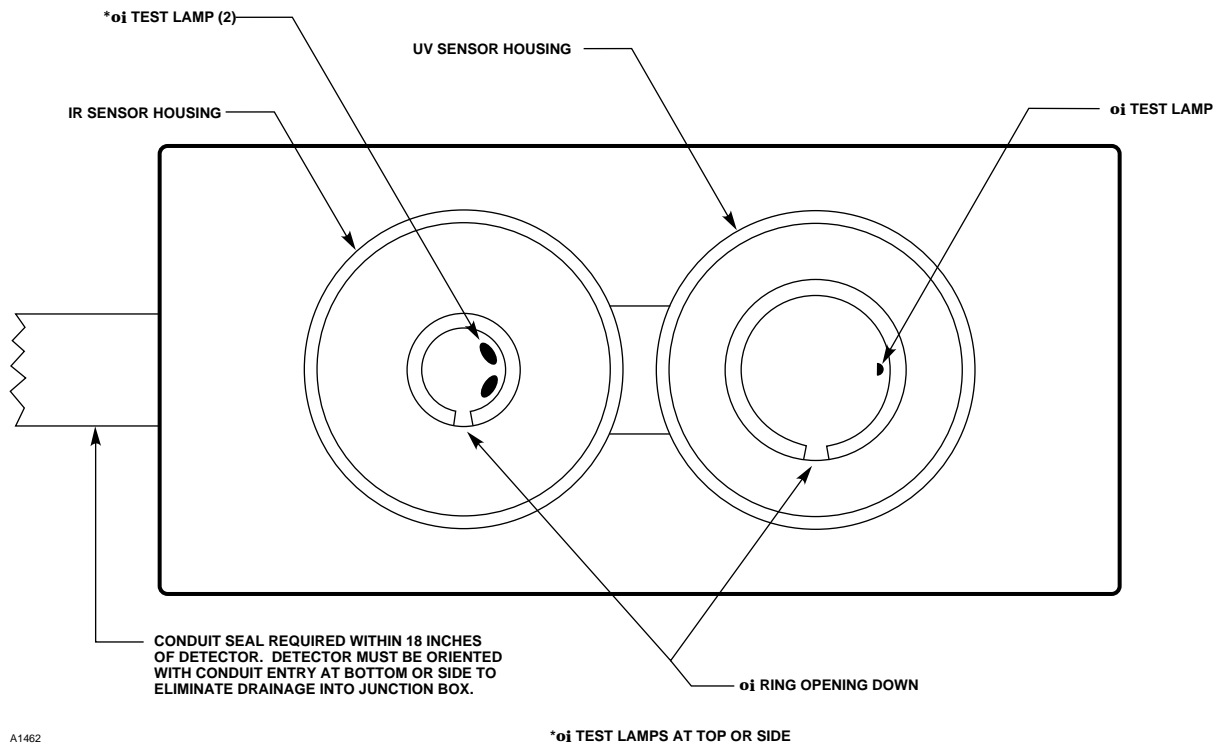

Figure 10—Front View of the C7052 Detector
It is recommended that the detector be oriented with the conduit opening at the bottom or at either side of the device. This will reduce the possibility of moisture entering the junction box through the conduit entry and also ensure that the **o**i test lamps are not in a position that would make the detector overly susceptible to **o**i faults. Whenever possible, slope the conduit run downward from the detector. Do not use conduit runs that enter the device from the top. See Figure 10 for identification of the detector parts of interest when mounting, and Figure 11 for an example of vertical detector mounting.
*The two **o**i lamps on the DE5500 IR sensor should be at the top or side of the detector (when viewed from the front) and the opening on the **o**i ring should be at the bottom. See Figure 10. This will ensure proper operation of the **o**i system and also minimize the accumulation of moisture and contaminants between the **o**i ring and the viewing window. (The **o**i lamps on the IR sensor are identified as oblong in shape and clear in color.)*
16. The opening of the **o**i rings should be pointed down to minimize the accumulation of moisture or contaminants behind the ring (see Figure 10). Verify that the **o**i test lamp is at the top or side of each sensor. Note that Figure 10 shows the DE5500 IR module with the test lamps located together on one side of the edge. The DE3895 IR module has test lamps located directly opposite one another. In both cases, ensure that no test lamp is positioned at the bottom when the detector is installed.